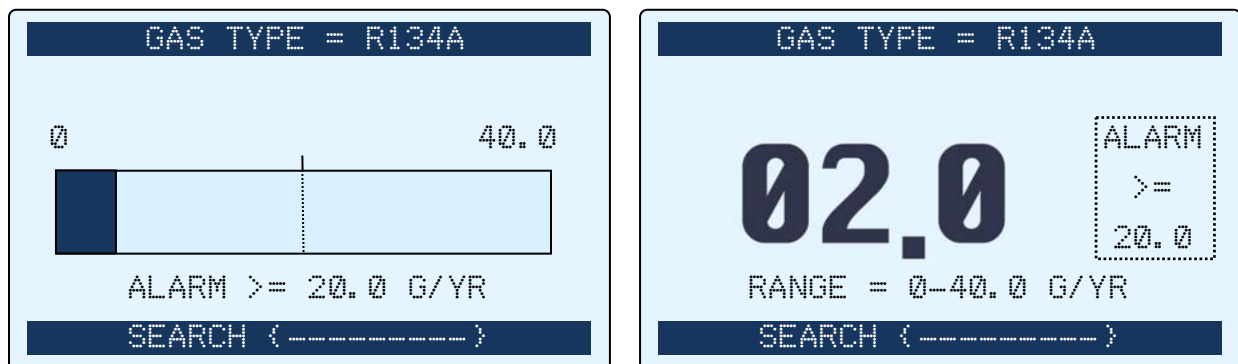

Figure 3-9. Sample Search Mode Screens (Showing Graphic and Numeric Display Styles)
- Gas reading in bar graph or numerical format based on the selected display style (see Figure 3-9)